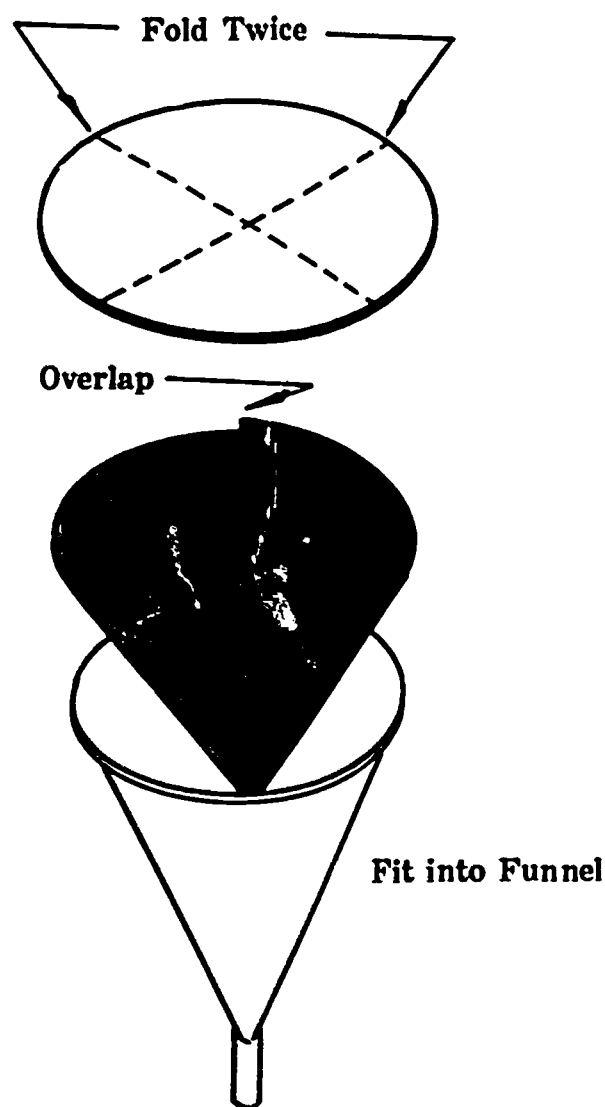

Fig. 49-5. Fitting Filter Paper to Funnel
3. Fold the filter paper twice, and fit it into the funnel. See Fig. 49-5.
2. Fold the filter paper twice, and fit it into the funnel. See Fig. 49-5.